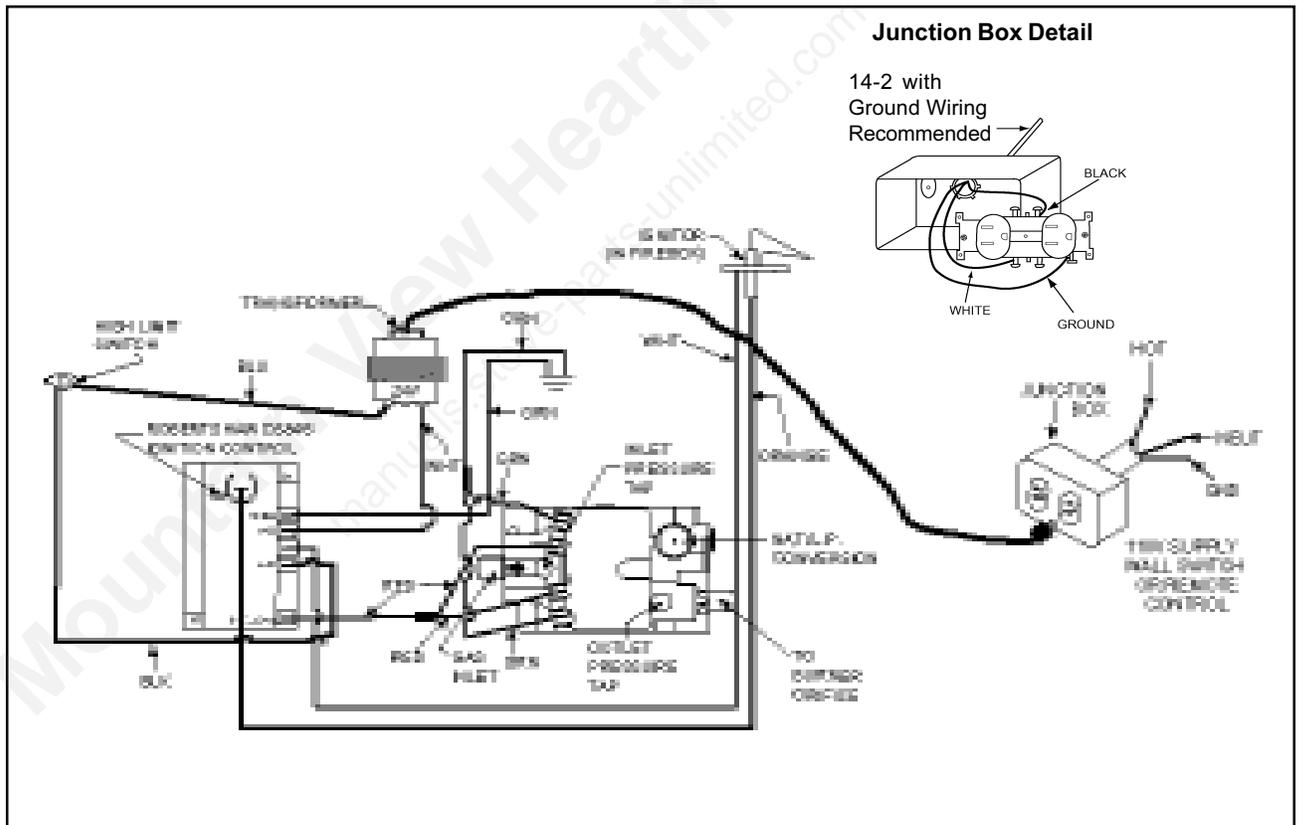

Figure 14 - Electronic Ignition Wiring Diagram
- 1) **Appliance Requirements.** This appliance requires a 110V AC supply from the junction box for operation. A wiring diagram is shown in Figure 14.